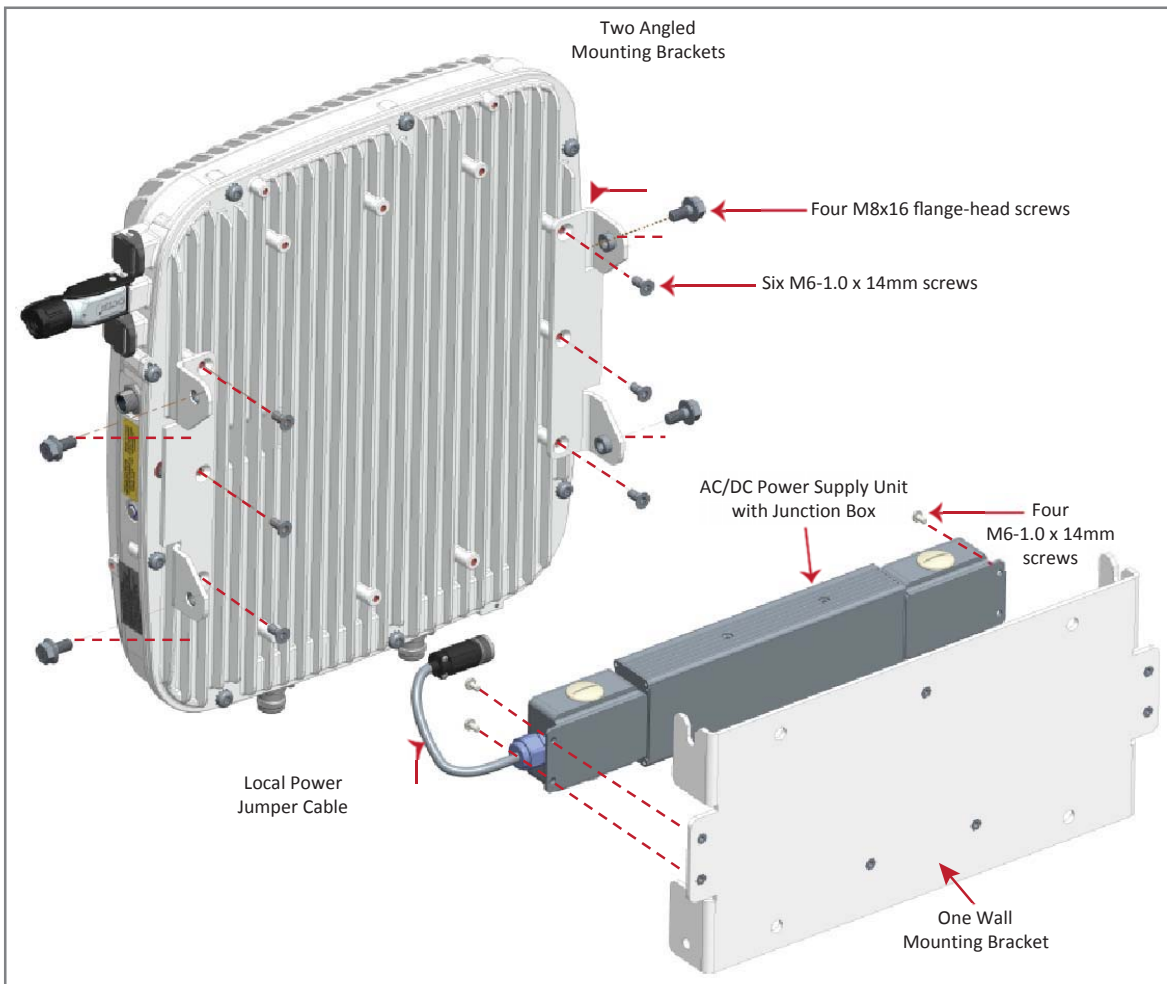

Figure 12. CAP L (No Fan Kit) with AC/DC Power Supply Kit (PN 7775087-xx) and CAP L Mounting Bracket Kit (7774354-xx)
- 5 Assemble and mount the AC/DC Power Supply Kit and the CAP L, as described below and as shown in Figure 12 on page 32 (CAP L without Fan Kit) and Figure 13 on page 33 (CAP L with Fan Kit). The Local Power Jumper Cable Assembly will be connected to the AC/DC Power Supply Junction Box at the factory.